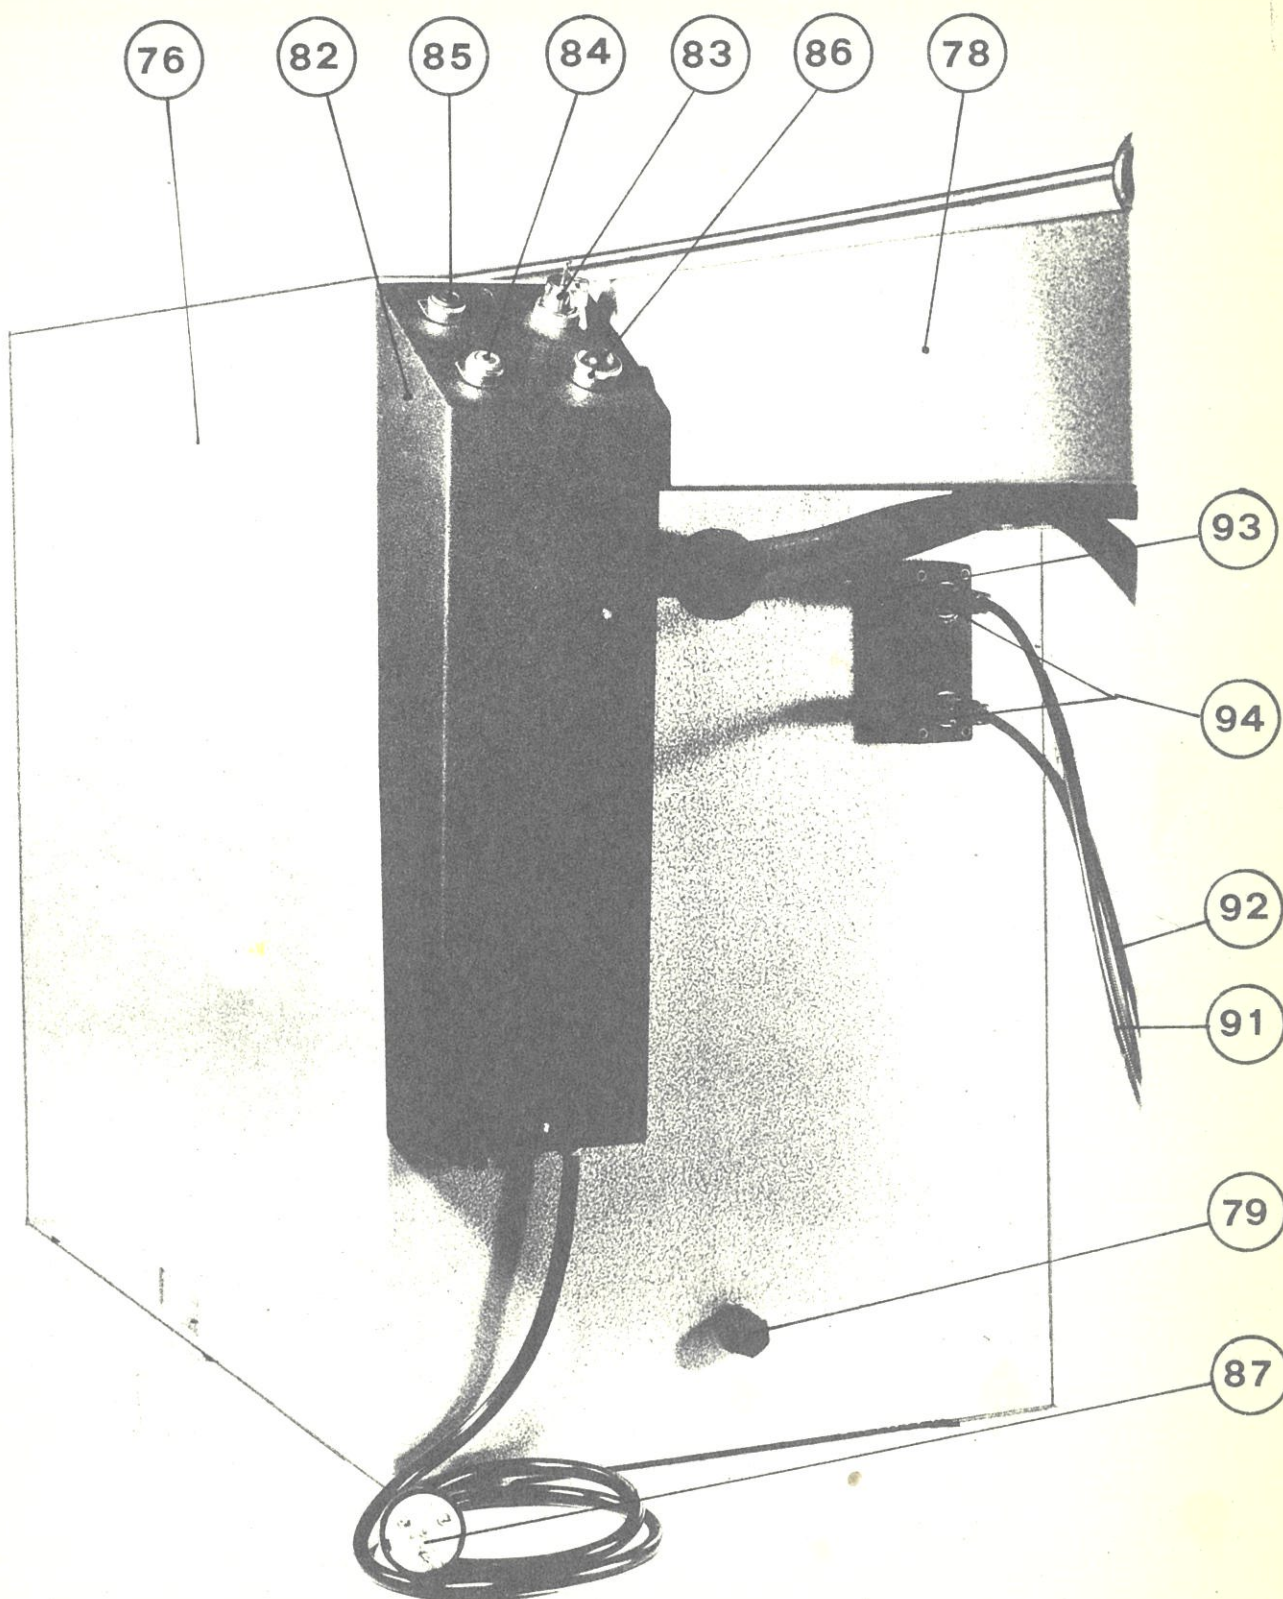

fig. 5
These consists of: two pushbuttons (84, 85) and one switch (83) on the panel (82), (fig. 5).